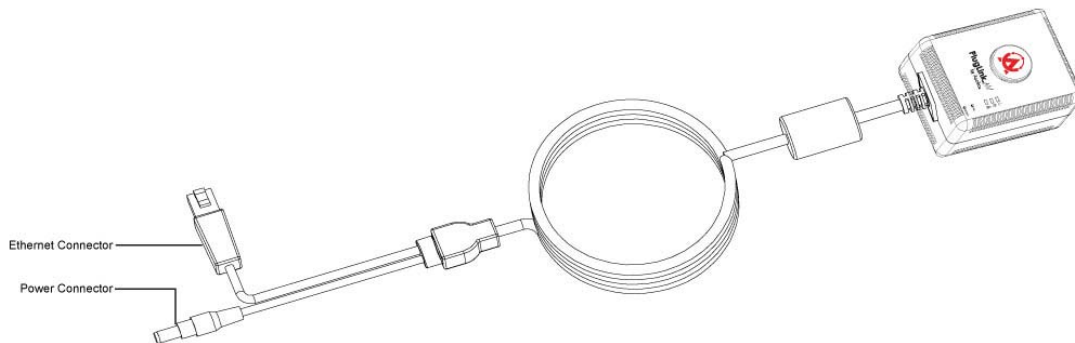

Figure 3-2: PL9665-12D Cable connectors
2. a Power connector as shown in figure 3-2.